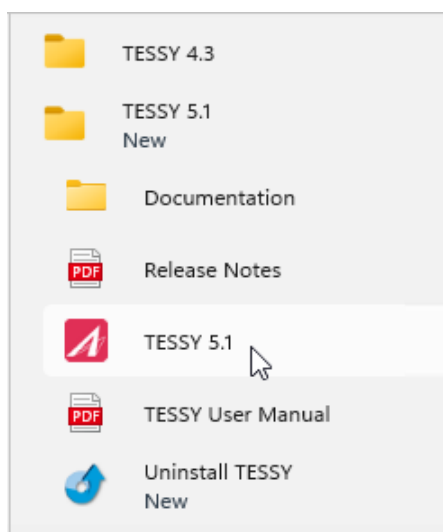

Figure 1.7: Starting TESSY 5.x
→ Start TESSY by clicking  “Start” in Windows > “TESSY 5.x” > “TESSY 5.x” (see fig. 1.7).
- Close the License Manager and start TESSY by clicking  “Start” in Windows > “TESSY 5.x” > “TESSY 5.x” (see fig. 1.7).